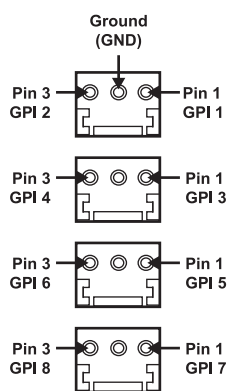
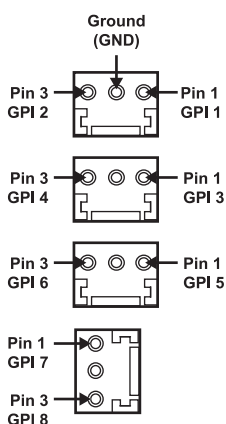
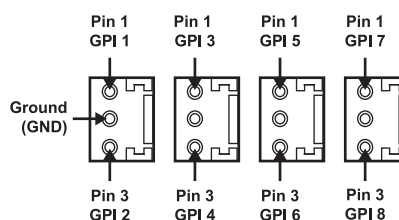

Figure 2.7 8310AR-033 GPI Connections
Figure 2.8 8320AR-033 GPI Connections
Figure 2.9 8320AR-049 GPI Connections
- Refer to Figure 2.7, Figure 2.8, or Figure 2.9 for GPI configuration on the Rear Module.